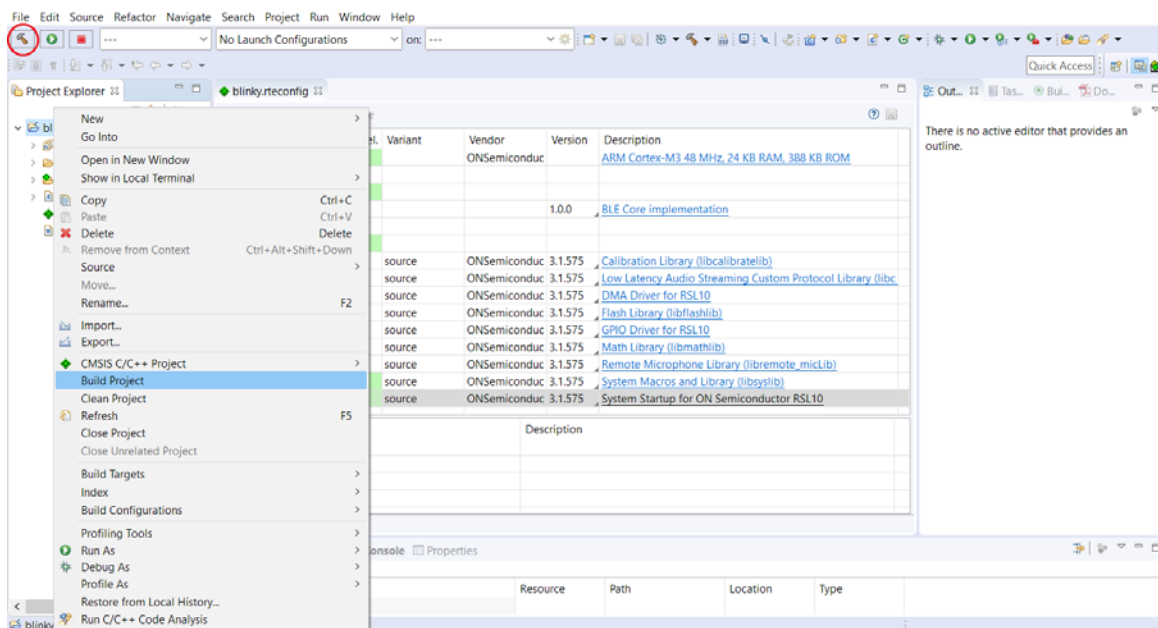

Figure 7. Starting to Build a Project in the ON Semiconductor IDE
1. Right click on the folder for *blinky* and click **Build Project**. Alternatively, you can select the project and click the Build Project icon, which looks like a hammer, as shown in Figure 7.